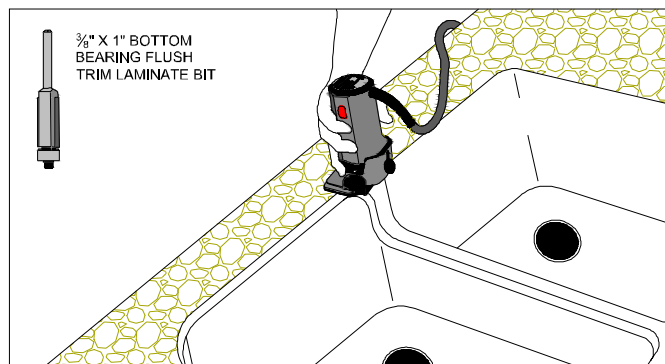

Figure 8A
- Adjust the laminate tilt-base trim router with a  $\frac{3}{8}$ " bottom bearing flush trim bit. (FIG. 8A)
- Route around the inside of the sink. (FIG. 8A)